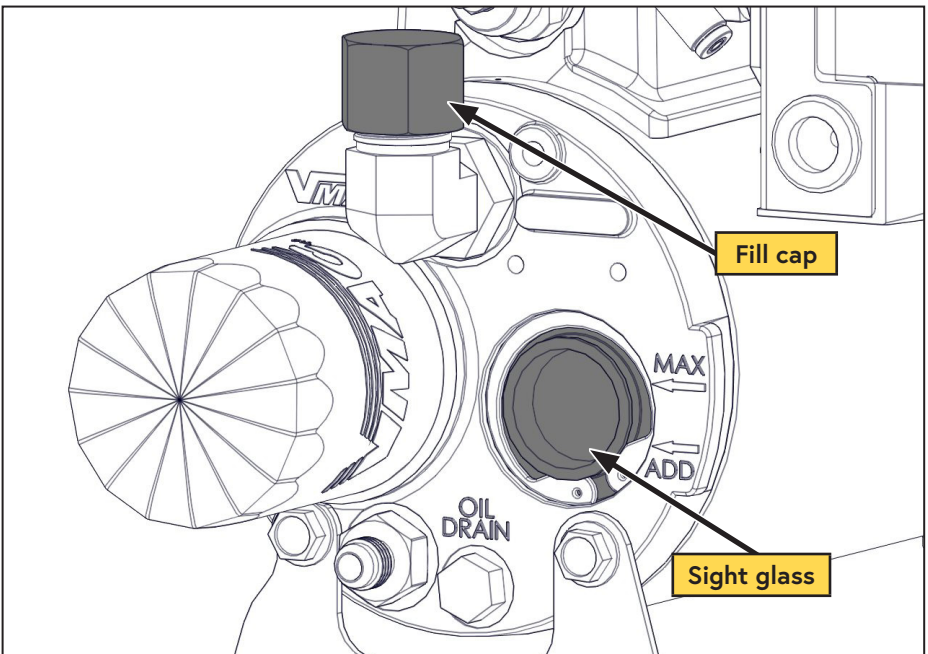

Figure 27 — Filling the WHASP Tank
- Remove the fill cap on the WHASP Tank (above the sight glass) (Figure 27).
- Using a funnel, pour oil into the tank until the oil level in the sight glass reaches the "MAX" line. **The system capacity is 4 L** (Figure 27).